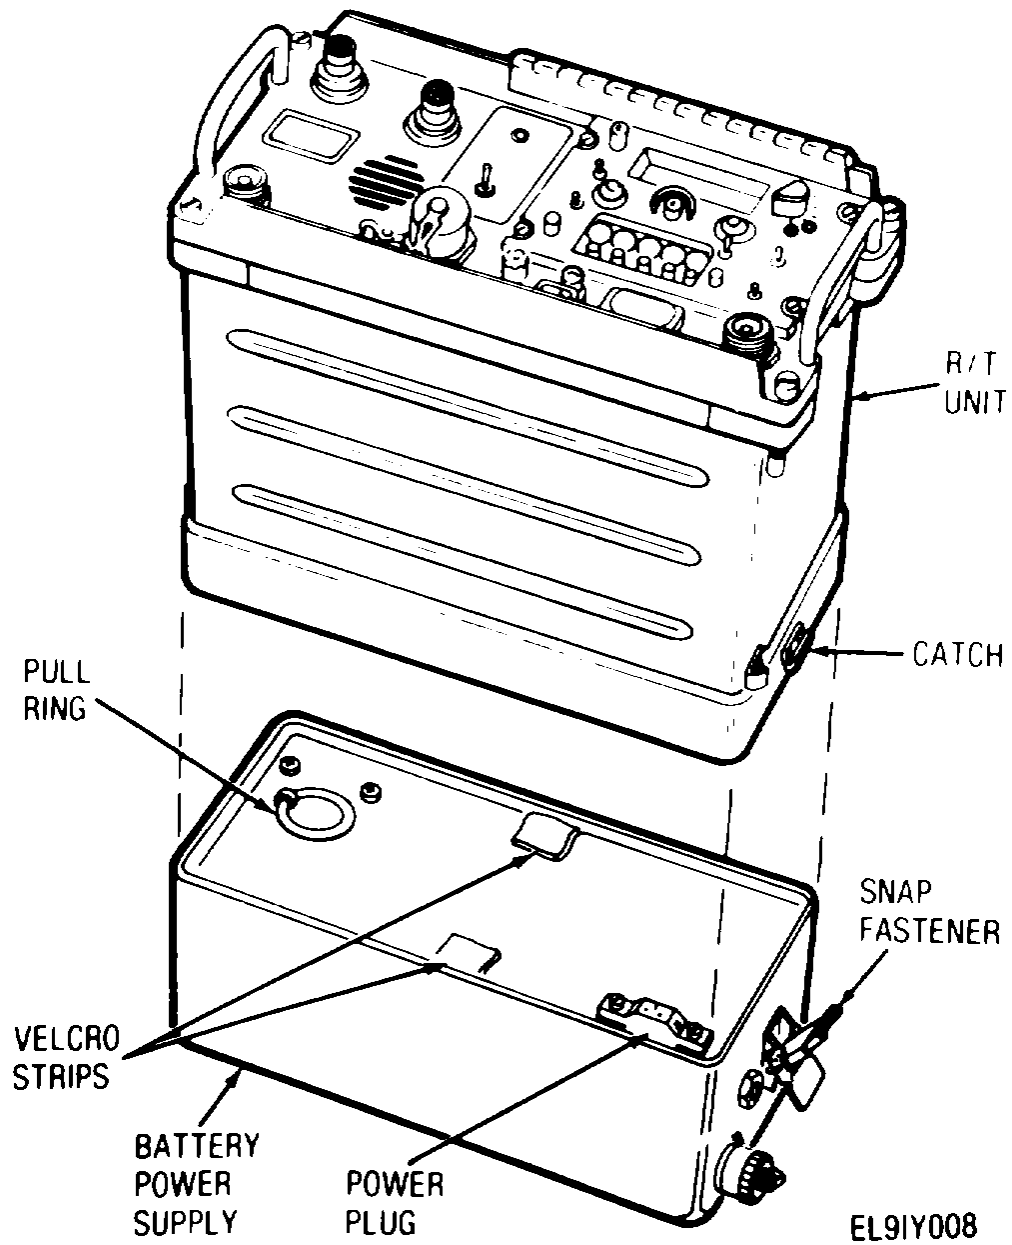

Figure 3-1. Battery Power Supply Removal Installation Diagram
**The snap fasteners shown in figure 3-1 are spring loaded. To avoid pinched fingers, use care when snapping or unsnapping fasteners.**
To remove or install the battery power supply, refer to Figure 3-1. position R/T unit power switch to OFF and perform the following steps.
- (1) Position battery power supply as shown in Figure 3-1
- (2) Ensure pull ring is flat against top of insert as shown
- (3) Align R/T unit directly over battery power supply with bottom toward you.
- (4) Slowly lower the R/T unit onto the battery power supply
- (5) Gently press down on the R/T unit handles until the power plugs are fully seated
- (6) Position snap fastener latches over catches on R/T unit
- (7) Press down on snap fastener levers until levers snap into place.